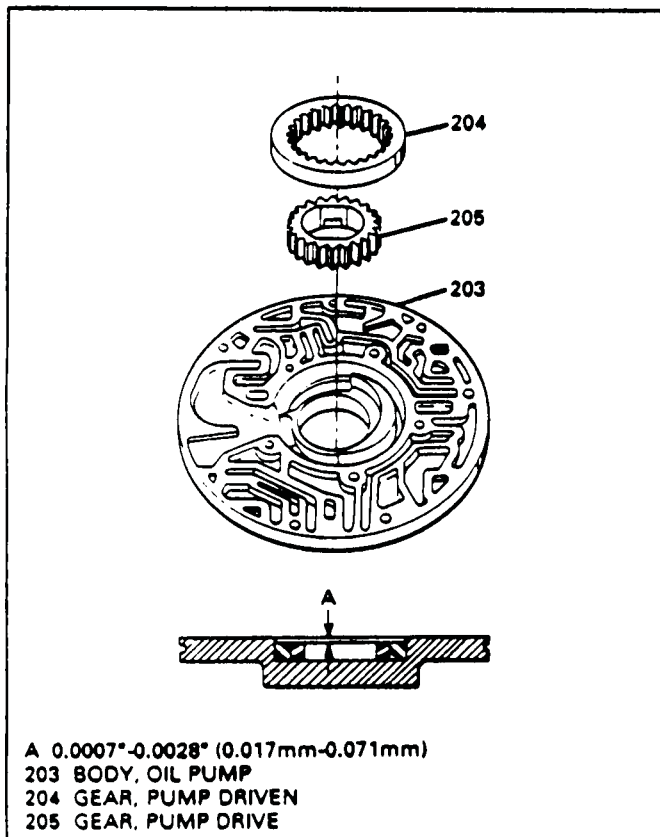

Figure 104
3. Install the oil pump drive and driven gears into the pump body, with the identification marks facing up. (See Figure 104).
4. Place a straight edge across the pump body, and measure pump gear to face clearance, with a feeler gage (See Figure 104).